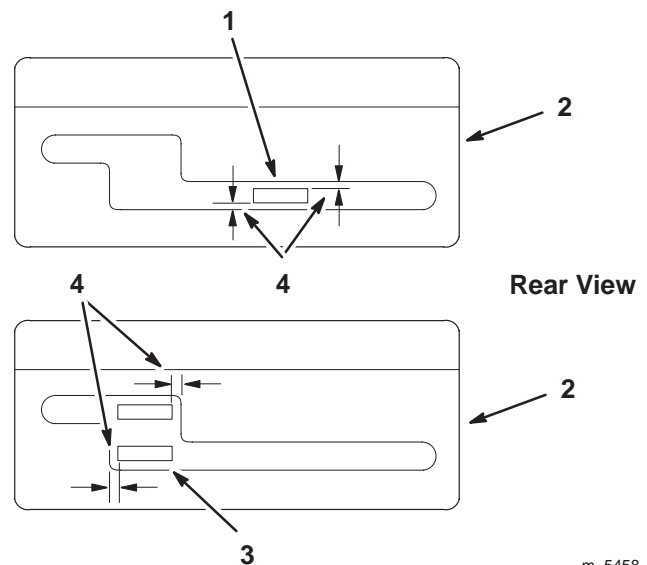

Figure 14
- Shift lever to second gear and check alignment of lever in slot of shifter lever plate. The clearance between top and bottom of the shift lever should be equal (Fig. 14).
- Shift lever to neutral and check alignment of lever in slot of shifter lever plate. The clearance on the sides of shift lever should be equal (Fig. 14).